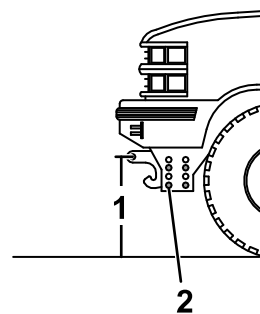

Figure 29
1. Measure the distance from the ground to the coupler spring-pin holes on the undercarriage pushbeam (Figure 29). The measurement should match the height listed for your plow in Specifications (page 19).
2. If the pushbeam is not at the correct height, remove the fasteners securing the pushbeam to the undercarriage (Figure 29).